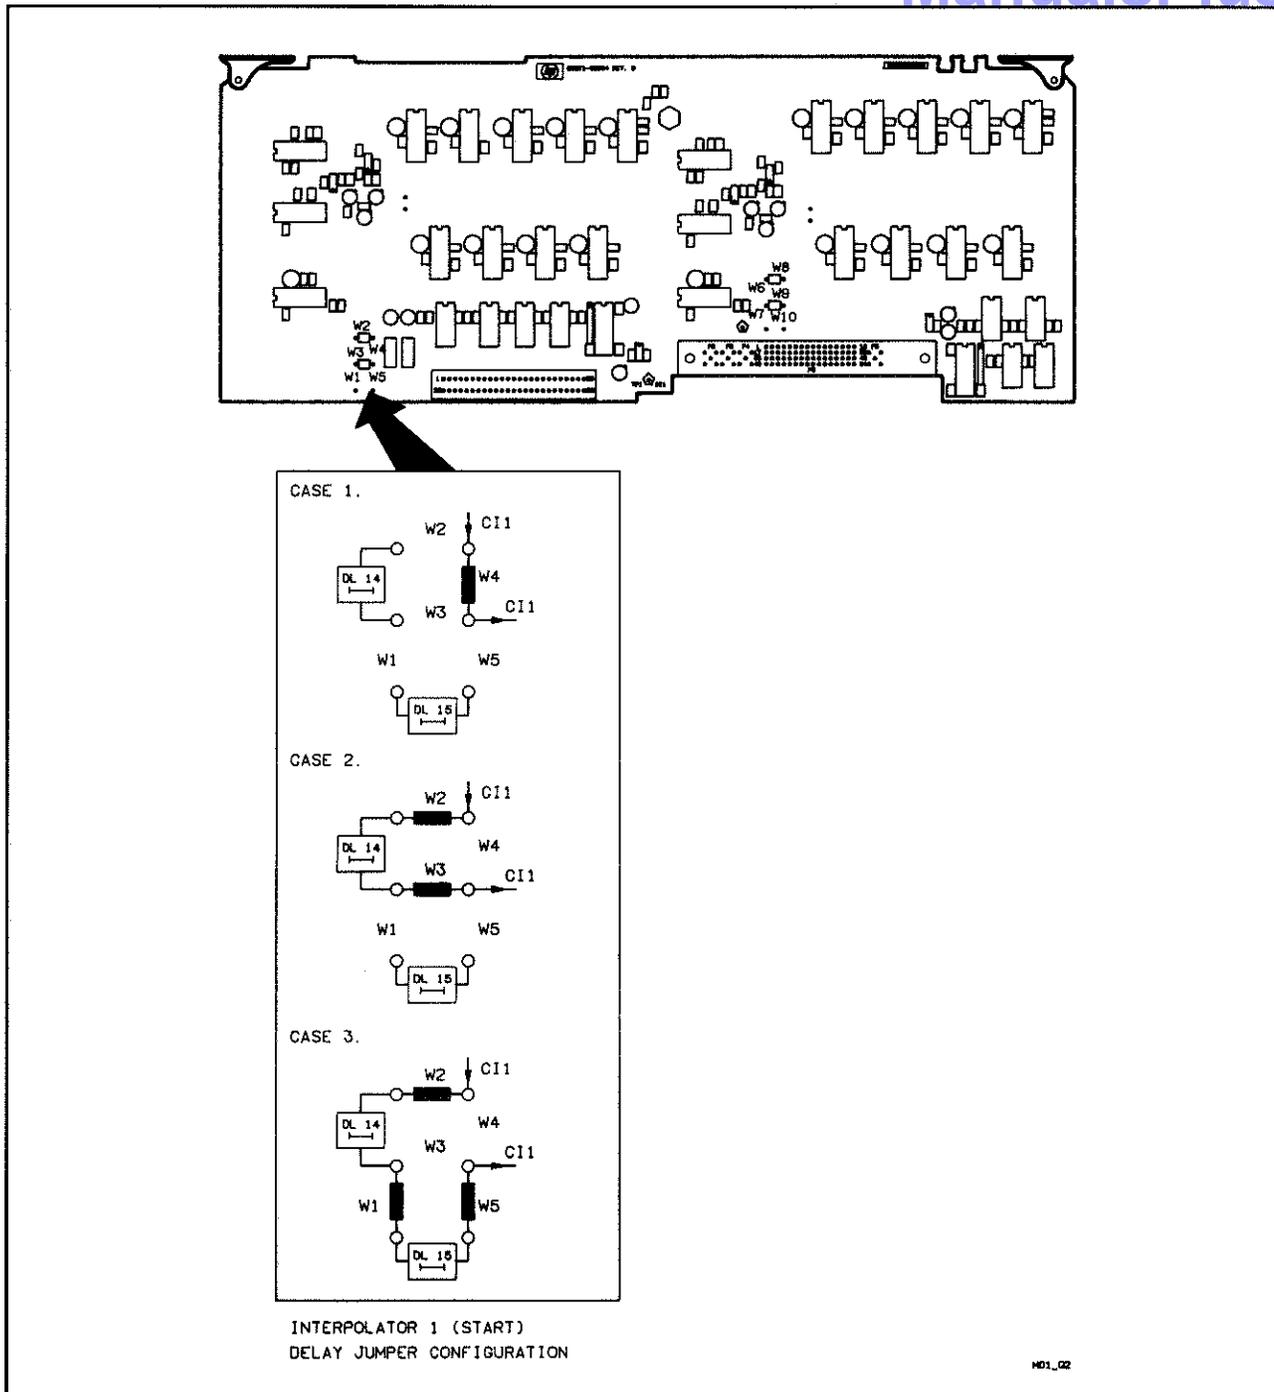

Figure 3-9. Interpolator 1 (Start) Delay Configurations
- H. Locate Interpolator 1 (Start) delay jumpers W1-W5 by referring to *Figure 3-9*.
- I. Refer to the actual A4 Interpolator Board and *Figure 3-9* to determine which delay configuration currently exists in the Interpolator 1 (Start) circuit.